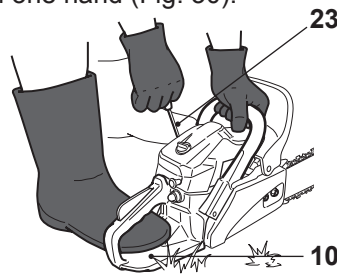

Fig. 30
- > If the engine is warm, leave the choke knob (24) in its opened position and do not prime.
- > Hold the product securely to the ground and put your foot on the rear hand safeguard (10), then pull the starter handle (23), vigorously 3 to 4 times. Do not start the engine while handling the product with one hand (Fig. 30).